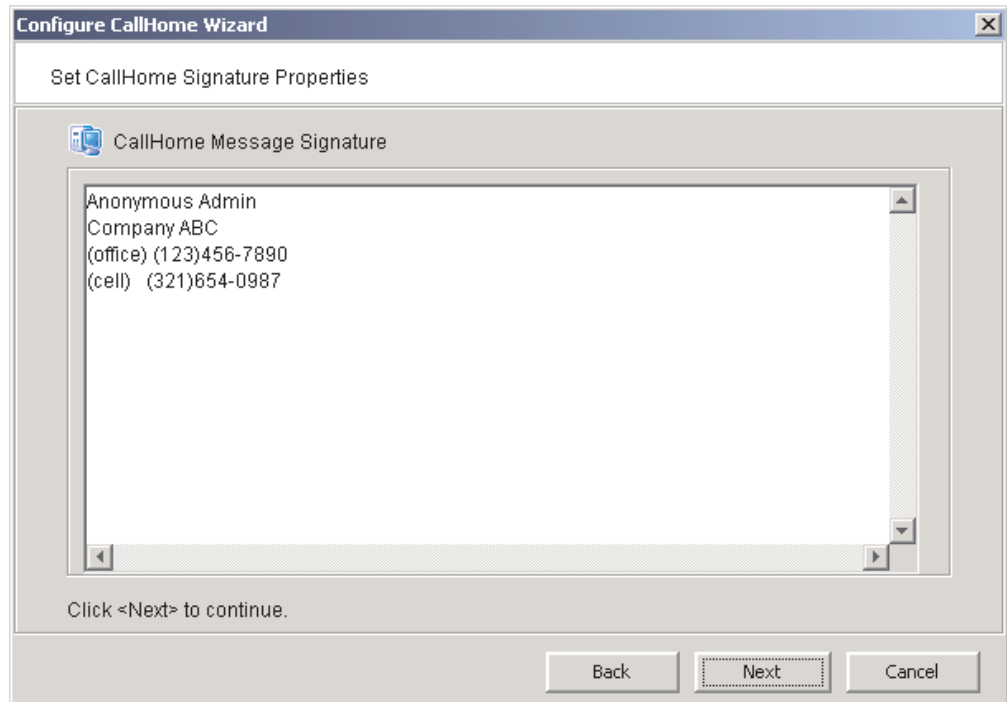

Figure 121. Set CallHome Signature Properties window
3. ___ In the Set CallHome Signature Properties window (Figure 121):